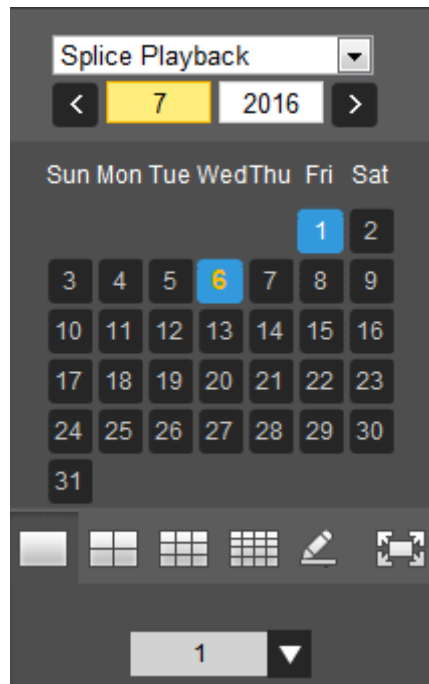

Figure 5-179
Step 1 On the Playback interface, select splice playback from the dropdown list, you can go to the Figure 5-179.